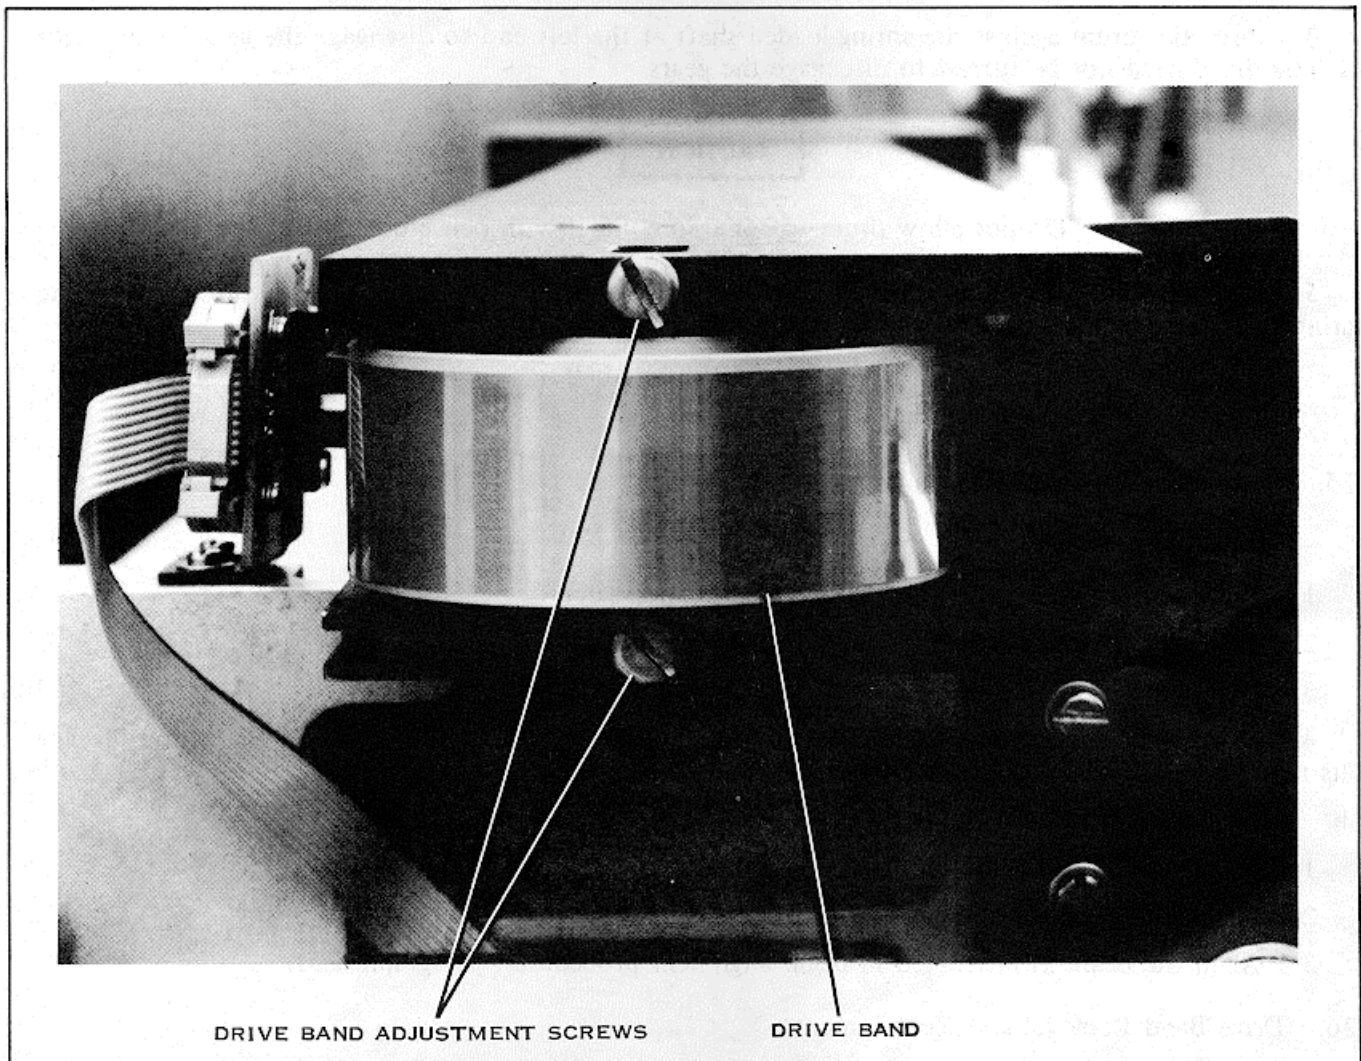

Figure 5-8. Drive Band Adjustment Screw Locations
5. Loosen drive band adjustment screws at left end of beam assembly. Refer to figure 5-8 for screw location. Do not loosen any screw completely the first time; turn each screw one-half turn at a time.
2. Remove the band adjustment screws (see figure 5-8).